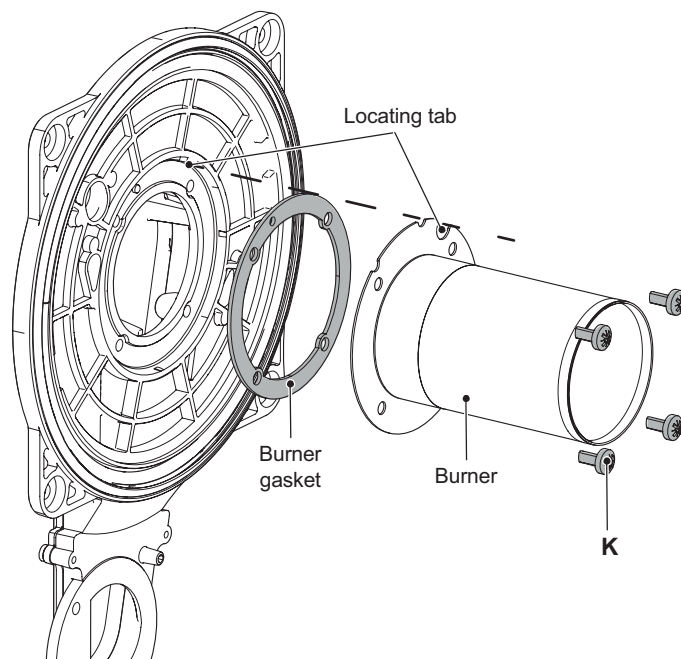

Figure 18.5
- 5 Unscrew the screws "K" (Figure 18.5) and remove the burner.
- 6 Assemble the burner carrying out the removal operation in reverse order. Ensure the burner is correctly located by lining up the locating tab (Figure 18.5).